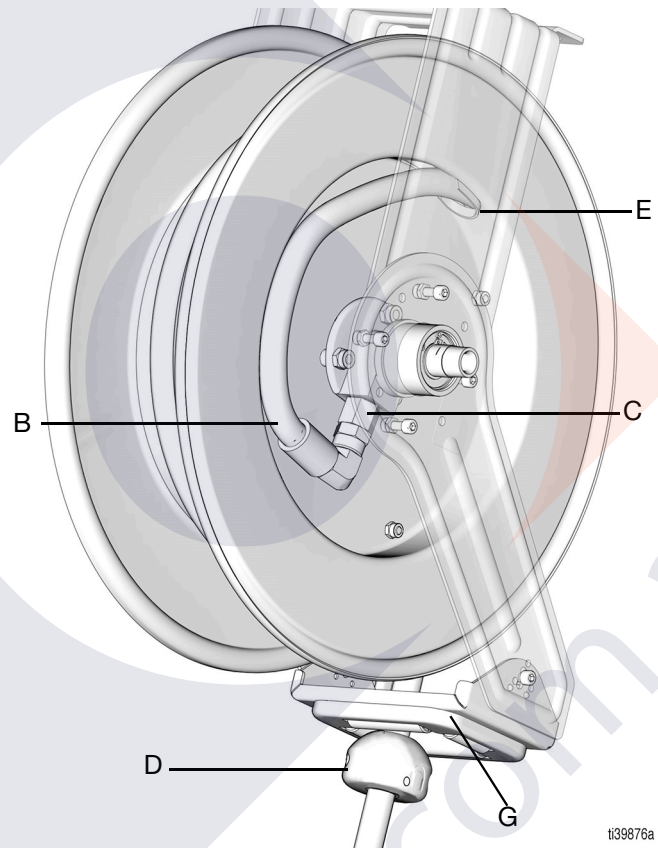

FIG. 16
- Disconnect the hose (B) from the swivel (C) (FIG. 16).
- Run the end of the hose (B) through the hose guide (G), and then through the hole (E) in the reel (FIG. 16).
- Attach the hose end (B) to the hose reel swivel (C) (FIG. 16).